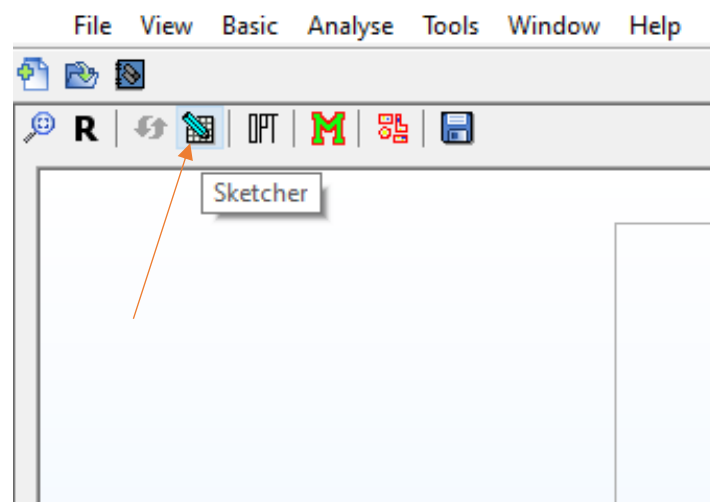

Figure 408
3. Open sketcher by using the shortcut **S** or click the sketcher pencil button on the Main Toolbar  (Figure 408).